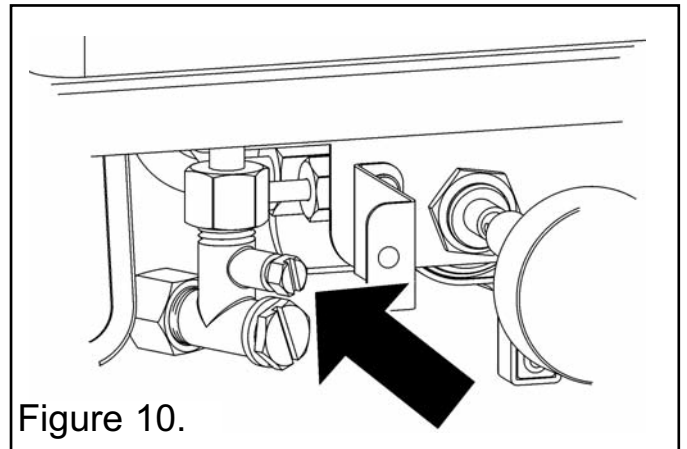

Figure 10.
- Check the inlet pressure by fitting a pressure gauge at the test point. The test point is on the inlet 'T' connector (See figure 10). Check the pressure with the appliance alight and set at maximum output.